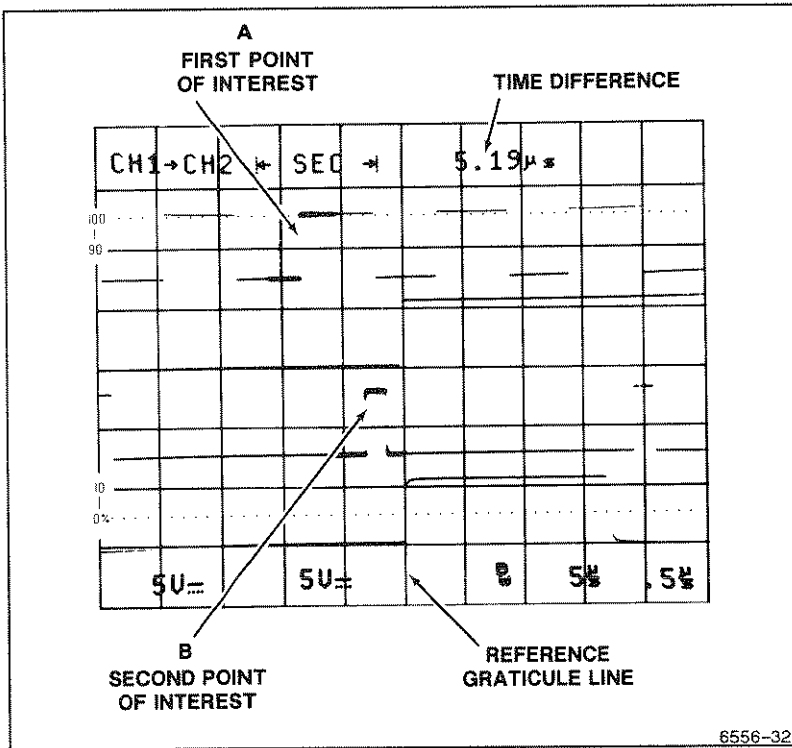

Figure 5-9. Time difference between the two delays.
7. Set the \leftarrow OR DELAY control so that the reference-delay intensified zone is positioned at the first point of interest (point A, Figure 5-9) and the B sweep display of that point is at the center vertical graticule line.
8. Set the \rightarrow control so that the delta-delay intensified zone is positioned at the second point of interest (point B, Figure 5-9) and the B sweep display of that point is at the center graticule line. The time difference between the two points of interest is displayed at the top of the screen.